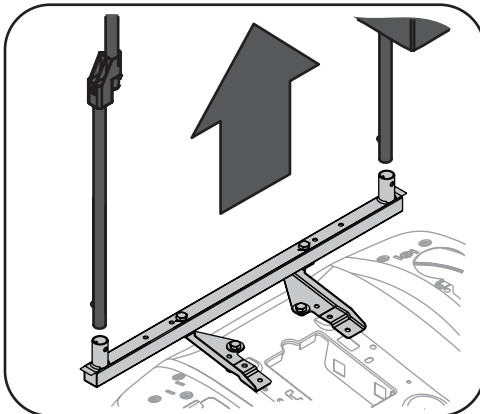

Figure 4-2
2. Remove sun shade assembly as shown in Figure 4-2.